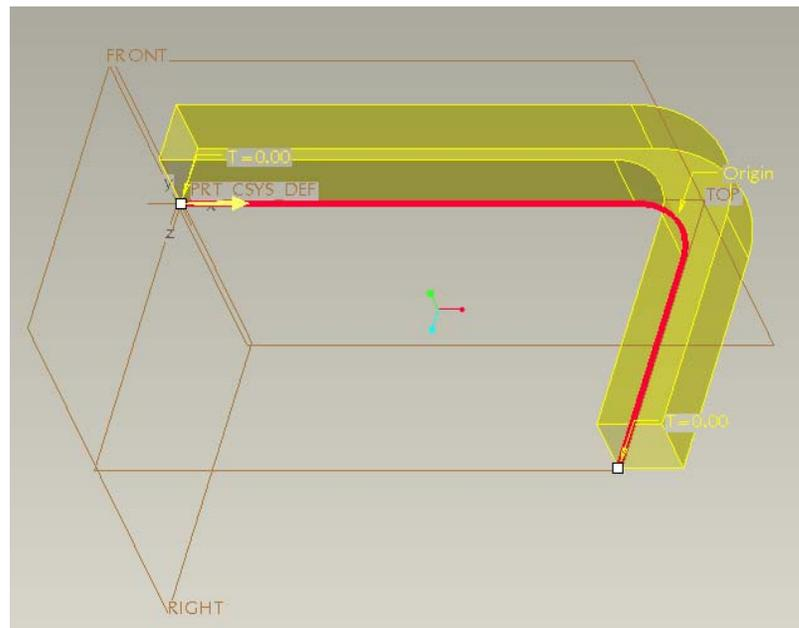

Figure 4 Bar
- c) The final part is created as shown in figure 4. Save the model